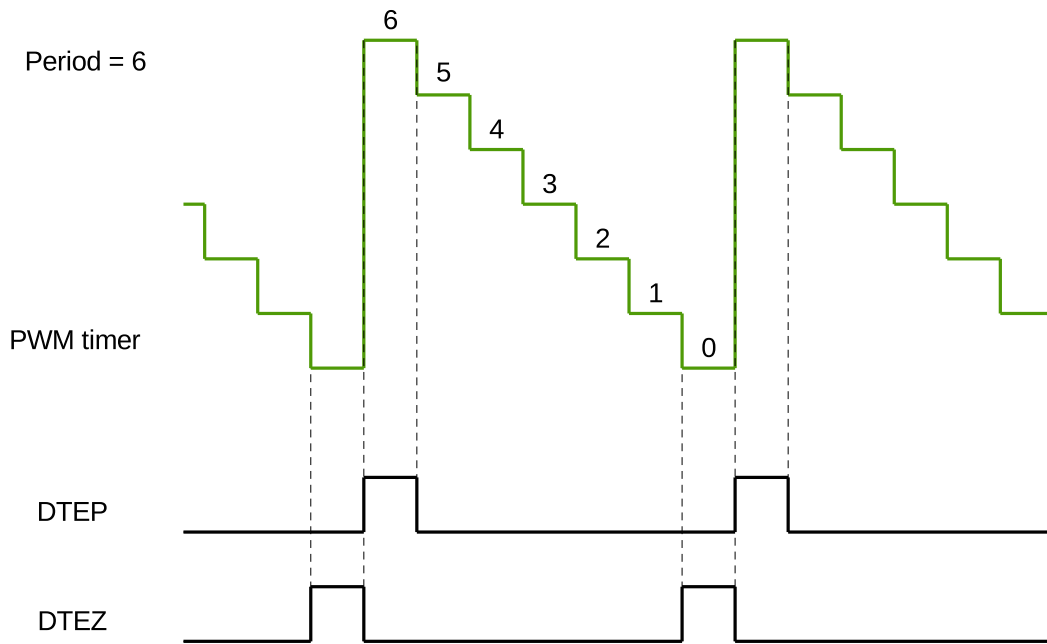

Figure 36-12. DTEP and DTEZ Generation in Count-Down Mode
2. DTEP and DTEZ do not happen simultaneously. When the PWM timer is in count-down mode, DTEZ will always happen one cycle earlier than DTEP, as demonstrated in Figure 36-12, so their action on PWM signals will not interrupt each other. When the PWM timer is in count-up-down mode, DTEZ will not occur.